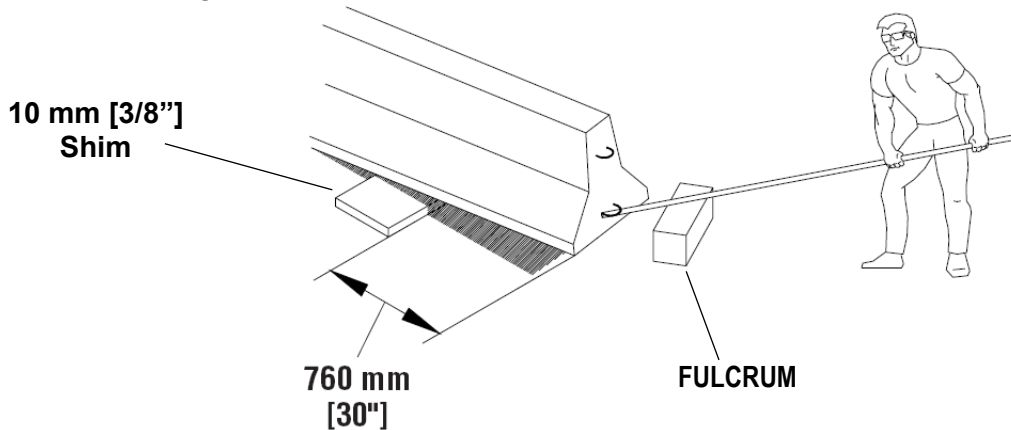

Figure 3
Step 1: Lifting the PCMB (See Figure 3)
- C. Insert the Wedges through the Backup Attachment Brackets and into the loops, one from the top and one from the bottom (See Figure 3). Place a nut on top end of the 762 mm (30") long threaded 1/2" diameter rod and insert it through the Upper and Lower Wedges. Place nut on bottom of threaded rod so that rod does not protrude past bottom of CMB. Align the bottom of the Support Frame with the bottom and centered left to right on the PCMB section. Torque to 80 N-m [60 ft-lb]. As the nuts on the rod are tightened the wedges will "pull" the Backup Attachment Bracket tight against the face of the PCMB. If this does not occur, correct the problem before proceeding. If input is needed, please contact our Customer Service Department (See Page 3).